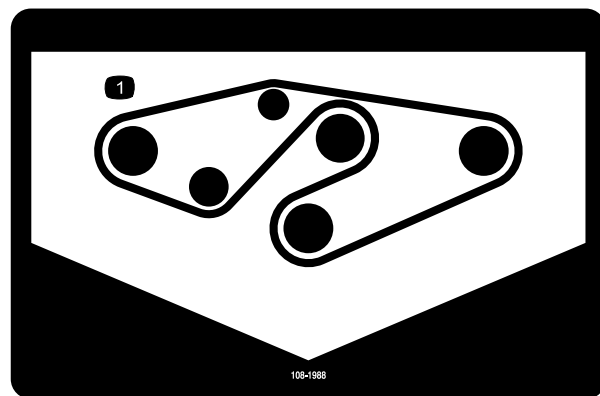

Figure 36
4. Route the new belt around the spindle pulleys and idler pulley assembly as shown in Figure 36.